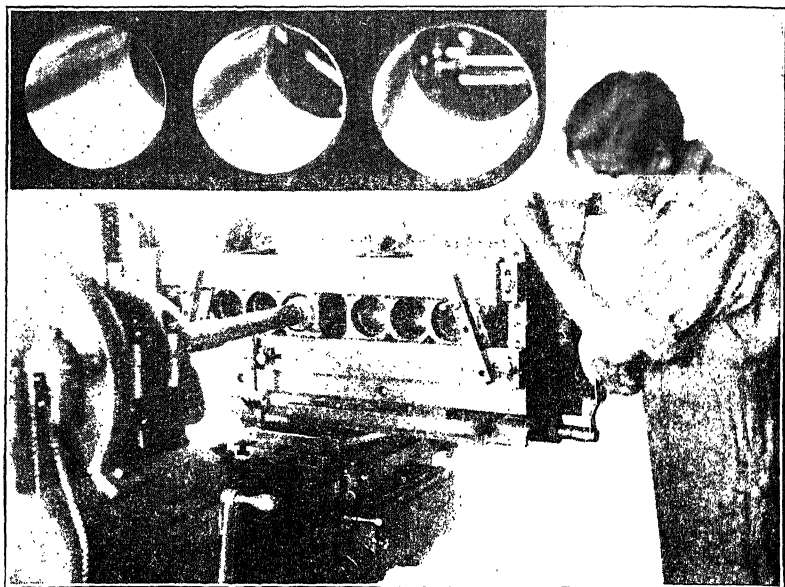

Fig. 23. A Six-Cylinder Block Set Up on a Heald Cylinder Grinder, with the Grinding Operation in Progress on No. 3
**Grinding Cylinders with Cylinder Grinder.** There may be some cause for misunderstanding among those who enter the automobile work as to what cylinder grinding is. In the older sense of meaning of the term, all cylinder grinding was done on grinders on the order of the cylinder grinder shown in Fig. 23. This is a large machine such as is used in factories and in cylinder grinding shops. The one shown is the Heald grinder. The Landis is also a popular machine for this work.
hone to the trade and the work it does as honing. Most garagemen make this distinction. When they think of a job of cylinder grinding, they are thinking of the job such as that illustrated in Fig. 23.
The disadvantage of a hone or a reamer or any cylinder reconditioning tool which is set up according to the old bore of the cylinders is one of alignment with the perpendicular from the crankshaft axis. In other words, the bore of an old cylinder block may not be square with the crankshaft. This fact is proven time and again when the used blocks are put on an accurate machine such as shown in Fig. 23. It may be that half or more of the bores will "clean up" with the removal of .010 inch of wall metal. Then a cylinder will be found which is not "square" with the face of the cylinder block and the crankshaft axis. This cylinder, the bore